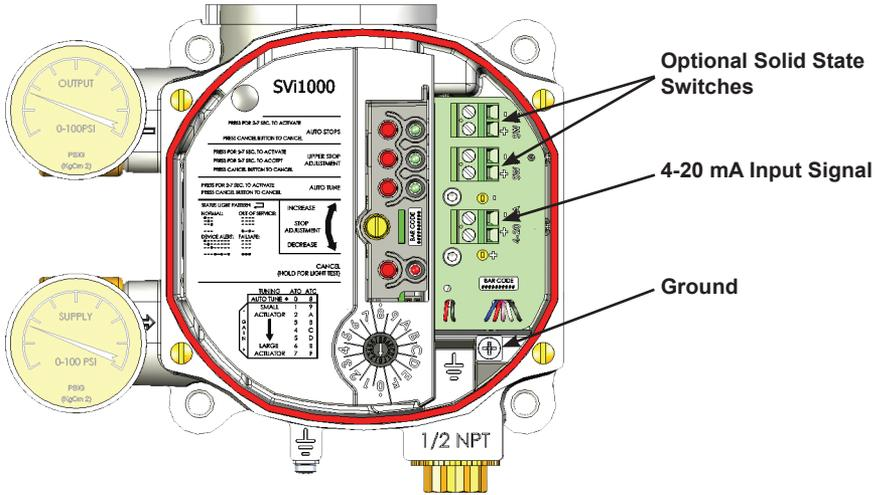
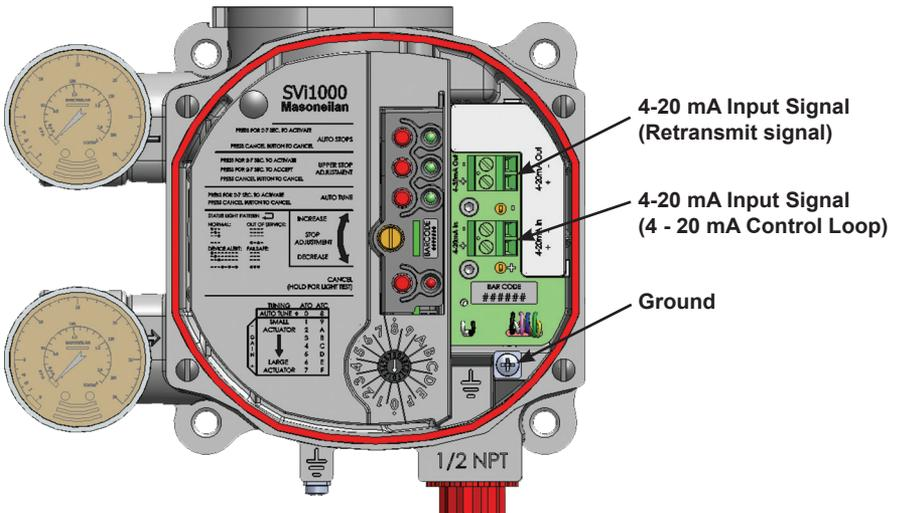

Figure 19 - Connections to Electronics Module with Switches (via Interface Board)
Figure 20 - Connections to Electronics Module with Position Retransmit (via Interface Board)
- b. Inserting the stripped end of the wires fully in to the appropriate terminal. Loosen the terminal screw if required to insert the wire. Refer to the label next to each screw terminal to determine the function of the terminal and correct polarity (see Figure 19 for 4 - 20 mA connections and Figure 20 on page 34 for position retransmit).